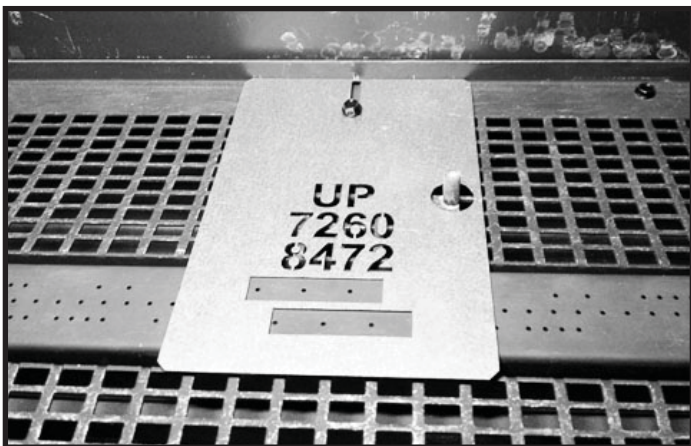

Figure 3. Insert Screws into Burner Ports
9. Insert six self-tapping screws into the 6 burner ports that lie within the burner port fixture rectangle holes. See Figure 3. Move the burner port fixture to the second location and repeat the process.